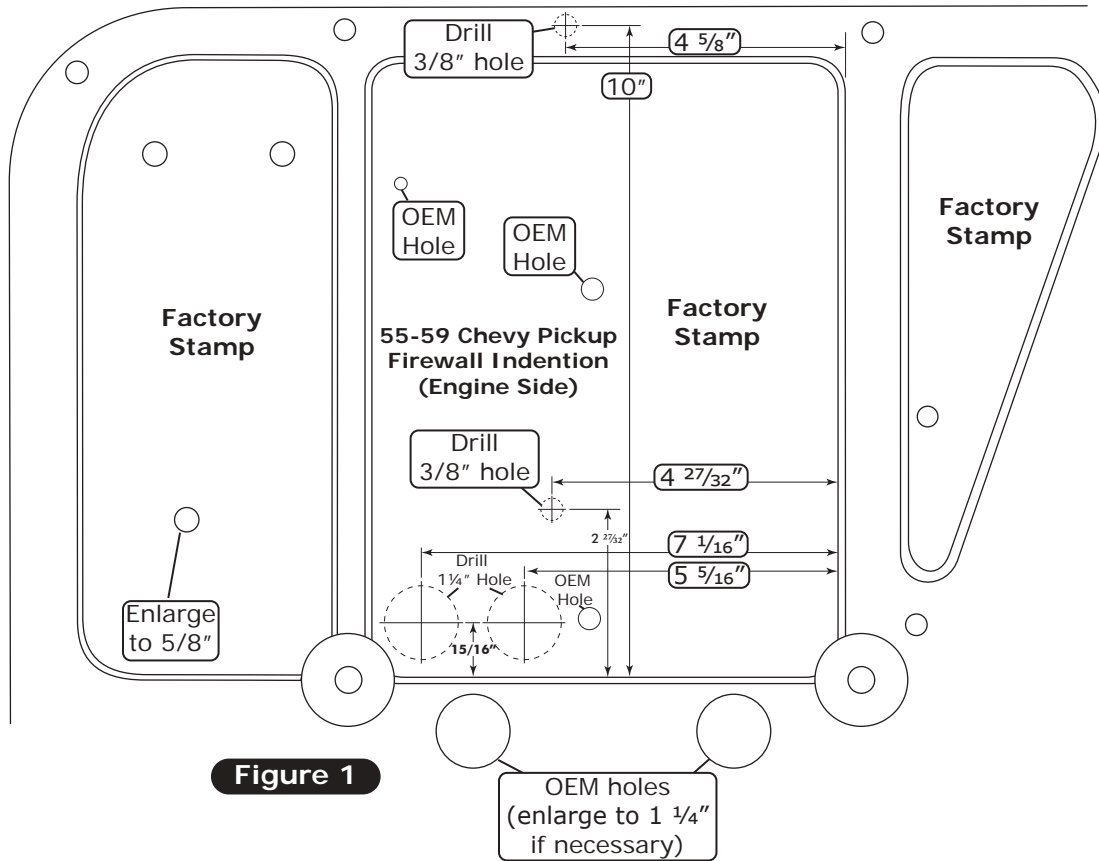

Figure 1
1. Drill (2) 1 1/4" holes and (2) 3/8" holes into the firewall (See Figure 1, below).
2. Enlarge an OEM hole in the firewall to 5/8" as shown in Figure 1, below.